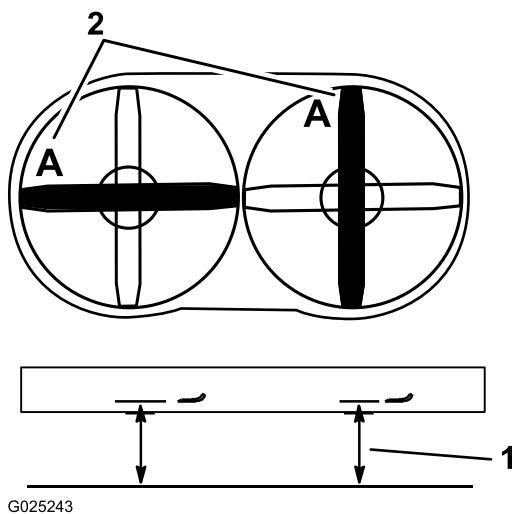

Figure 63
3. Rotate 1 blade as shown in Figure 63.
4. Measure from a level surface to the cutting edge at position A of the blade (Figure 63). Note this dimension.